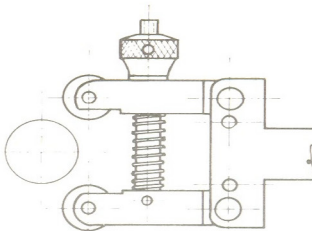

Fig. 2
- 2- Retire el moleteador y gire la tuerca (Fig 2) aproximando las moletas a la profundidad deseada. / *Remove the knurling tool and turn the nut (Fig 2) approximating the knurling tools to the desired depth.*